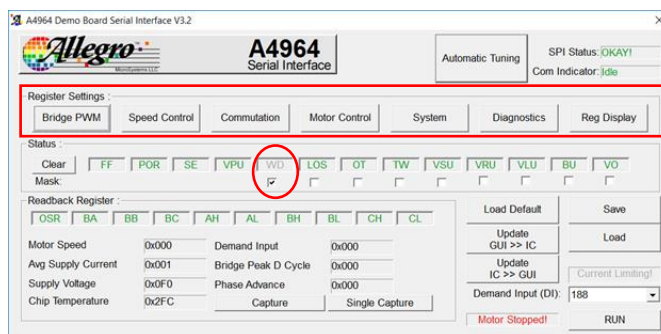
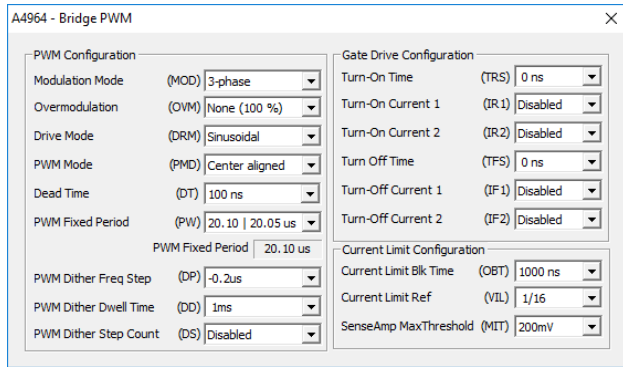
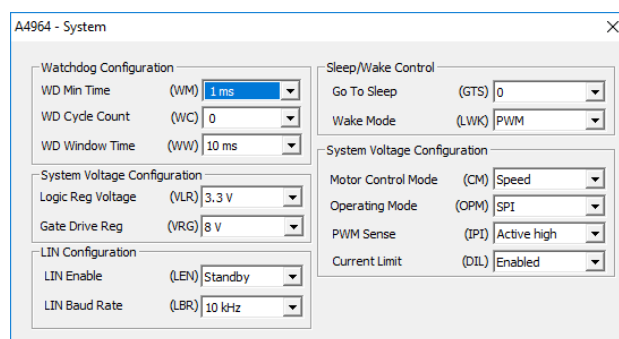

Figure 7: GUI Main Window
Figure 8: GUI Bridge PWM Section
Figure 13: GUI- System Section
Allegro also provides the A4964 Serial Control Graphical User Interface (GUI) which can be used to operate the demo board through the USB cable. The GUI is a standalone executable file, named A4964SerialVxpx.exe, where xpx is the version number. The latest versions can be accessed on the Allegro support website at registration.allegromicro.com. This GUI can be run directly on a Windows based PC without installation. A screen shot of the GUI when running is shown in figure 7.
The main window of the GUI is shown in figure 7.
Various settings such as type of control, fault detection, etc. can be configured in the GUI and based on their functionality, they are grouped in seven pop-up windows which are marked with red rectangle in figure 7. The summary of each of the configuration is provided in this application note, however, if the detailed explanation of any parameter is required, it can be easily found in the datasheet by searching the relevant title. For example, after clicking on the Bridge PWM button, the window shown in figure 8 will open. Then, if further information about “Modulation Mode” is required, the title “Modulation Mode” can be searched in the A4964 datasheet in order to obtain full details about it.
The first pop up window is the Bridge PWM which after clicking on it, should show the content shown in figure 8. “Modulation Mode”, defines the number of phases that are turned on at the same time. For 3-phase, all of the phases will be driven with PWM signal, whereas for the 2-phase, one of the phases is always driven low and two other phases are driven with PWM signal. The 2-phase modulation results in lower switching loss, however, with 3-phase modulation, the torque ripple reduces therefore resulting in less audible noise at low power outputs. Both trapezoidal and sinusoidal driving mode are available in A4964 which can be selected in the “Drive Mode”. If higher driving capability than is available in sinusoidal mode is required, “Overmodulation” can be used.
For example, if V_{MIT} is set to 200mV and V_{ISC} to 1/16, then the maximum allowed voltage across sense resistor is equal to 12.5mV. The current limit can be disabled by clicking on the System window and disabling DIL as shown in figure 13.
The minimum and maximum achievable speed can be set by underspeed (SL) and overspeed (SH) threshold. If the motor speed is below underspeed threshold or above overspeed threshold, the loss of synchronization occurs and the fault, LOS, shown in the content of status register in figure 7 will flag and the motor will stop by shutting down the FETs M1-M6 in figure 2. More information about LOS can be found in the datasheet.
When watchdog is enabled, the input waveform to the WDOG terminal needs to follow certain configuration which is explained in the datasheet. If the watchdog failure occurs, the MRSTn terminal output which is active low signal, can be used to disable or reset the microcontroller. The watchdog failure also disable all the switches and can put the device to sleep depending on the choice of settings. **If the watchdog feature is not used, it should be disabled in order to allow correct operation of the A4964 device.** This can be done by masking the WD bit in the main menu of the GUI shown in figure 7.
shown in figure 7. In this case serial interface communication is used and therefore the “Operating Mode” OPM shown in figure 13 needs to be set to SPI. The other method is to apply duty cycle to the LIN input. In this case the OPM needs to be set to PWM (stand-alone mode). More information about the LIN interface can be found in the datasheet.
When operating in closed loop current control mode, the current limit bit, DIL, needs to be disabled. In this case the “Current Limiting!” status in the main window of the GUI, shown in figure 7, will be shown in **red** if the current hasn’t reached to the defined limit. Otherwise it will be shown in **green**. In closed loop speed control or voltage control mode, if the current limit is enabled, the “Current Limiting!” status will be **red** if the current has reached to the limit and it will be **grey** if the current is not at the limit.
The “Clear” button will remove all the previous fault condition shown in the “Status” section of figure 7. If “Clear” is pressed and there is no fault in the system, the content of the status register should be shown in **green**. If the fault still exists, the corresponding fault will be shown in **red**.